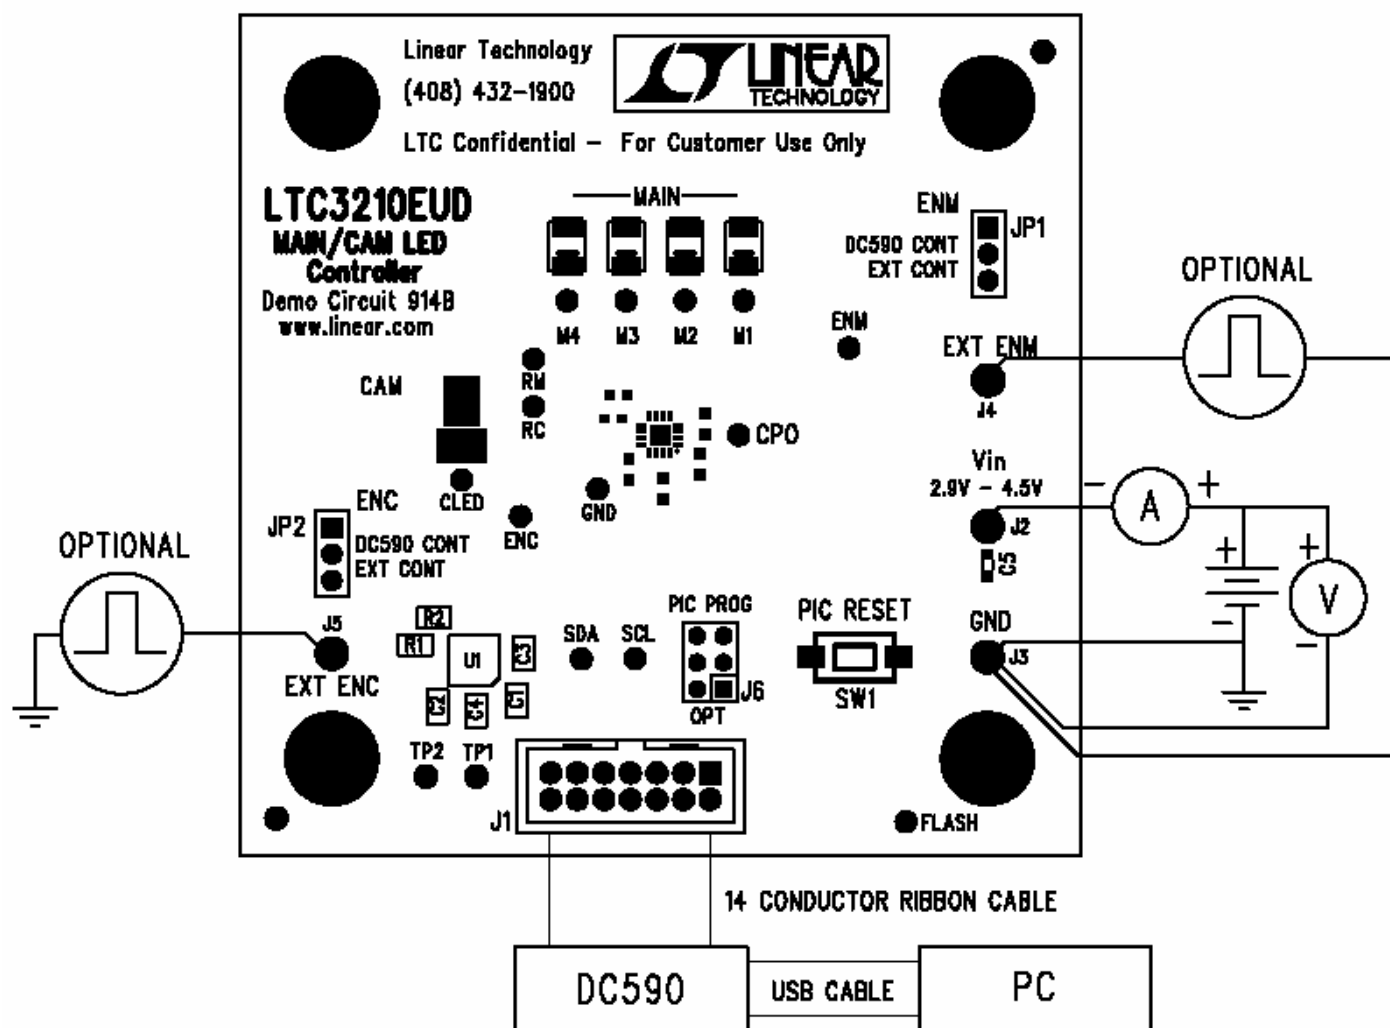

Figure 1. Proper Measurement Equipment Setup for DC914
Demonstration circuit 914 is easy to setup. Refer to Figure 1 for proper measurement equipment setup and follow the procedure below.
3. Connect DC914 to the DC590 USB Serial Controller using the supplied 14-conductor ribbon cable as shown in Figure 1.